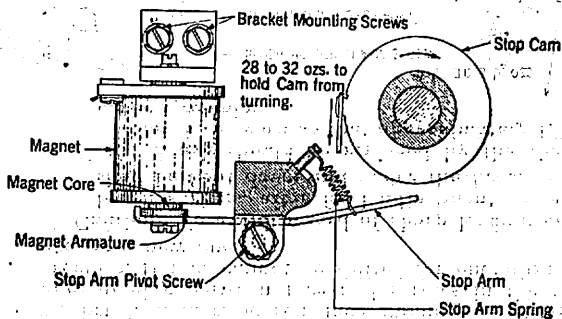

Fig. 17
4.48 **Main Shaft Clutch.** Run the motor for at least 10 minutes, after the clutch has been freshly lubricated and with the magnet armature released—brush stationary. Stop motor and insert orange stick in the cut-out of bakelite insulator below outside edge of slot between segments 1 and 2 of the distributor disc. This acts as a stop to prevent rotation of brush beyond this point as motor is started. Start motor. A pull of 32 ozs. applied to the stop cam lug, as in Fig. 17, with the motor running, shall move the cam in a direction opposite to normal rotation. A pull of 28 ozs. applied under the same conditions shall not move the cam.